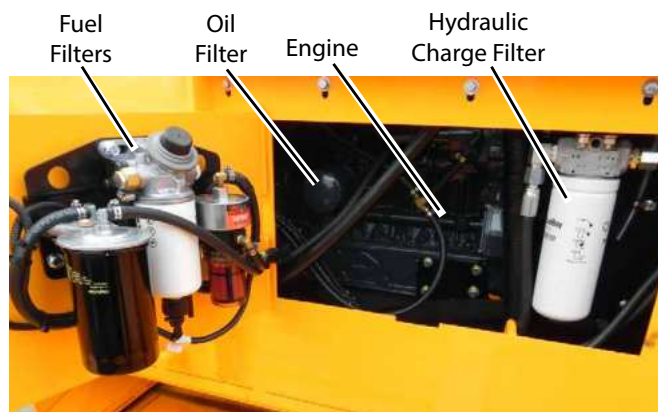

Figure 5-20. Hydraulic Charge Filter
9. Change the hydraulic oil filter by turning filter counterclockwise, then replace with new filter turning clockwise until snug (by hand only). **(Figure 5-20)**
12. Fill the hydraulic oil tank with filtered hydraulic oil. The cold oil level should be about 1/2-inch below the fill level black line on the sight gauge. **(Figure 5-20)**